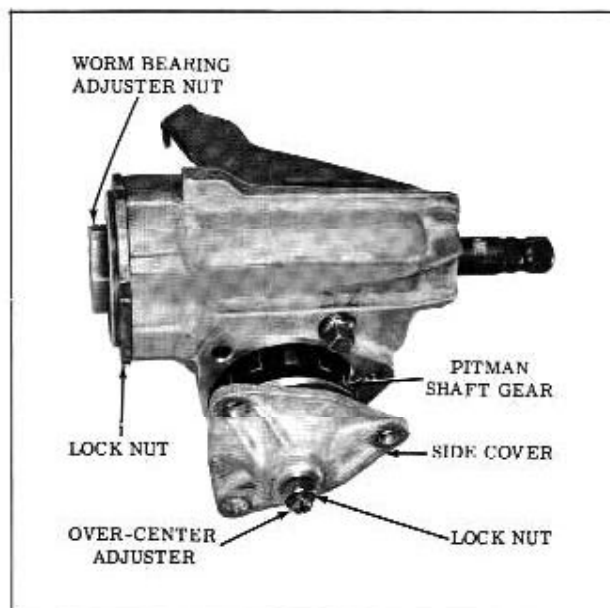

Fig. 4-28 Removing Pitman Shaft
4. Pull the side cover with the pitman shaft from the housing (Fig. 4-28).
6. Place a new gasket on side cover, then push side cover assembly including pitman shaft into place (Fig. 4-28). After making sure there is some lash between rack and sector teeth, assemble and tighten side cover bolts 25 to 35 ft. lbs. Fill gear with S.A.E. 80 Multi-Purpose gear lube to the level of the filler plug hole and replace filler plug.